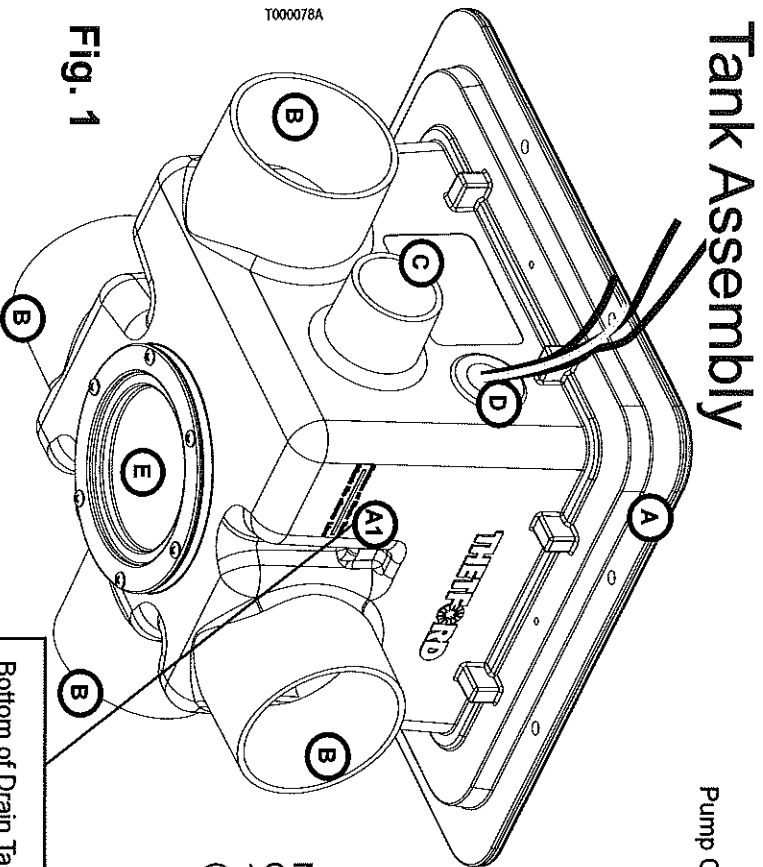

Fig. 1
- All systems rely on gravity to move the liquid waste to the pump; therefore, make sure that the pump inlet is mounted *below* the RV holding tank. See line on side of Sani-Con Turbo system - refer to **Fig. 1-A1**.
While the pump is turned on, verify electrical system by measuring voltage at motor; refer to **Fig 1-D** (must be 12V). Improper installation may cause damage to motor or decrease pump efficiency.